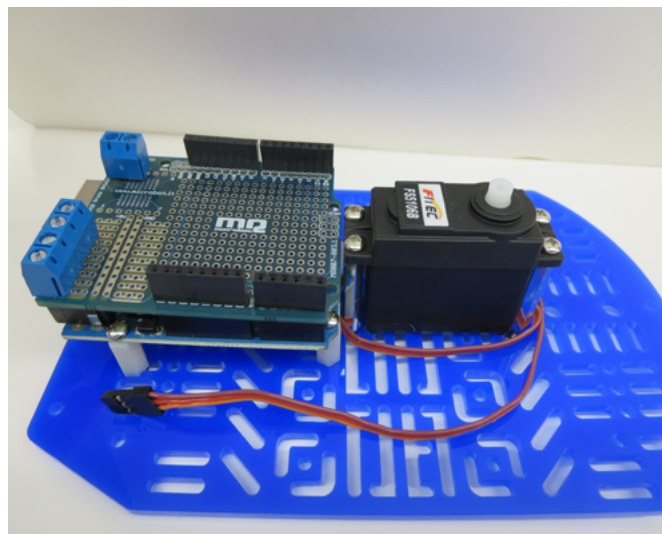

Fig.11
4. Plug the Prototype board onto the Arduino Uno with the six pin header aligned with the A0-A5 Arduino Analog input pins as shown in Fig. 11.